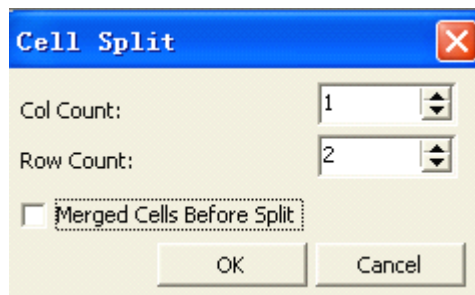

图 4-12
- ◆ Split cells  :click this button to popup split cells dialog as shown in figure 4-12, select col or row cont through the dropdown list. Maximum row count is 10.select “merged cells before split” to merge the select cells firstly.